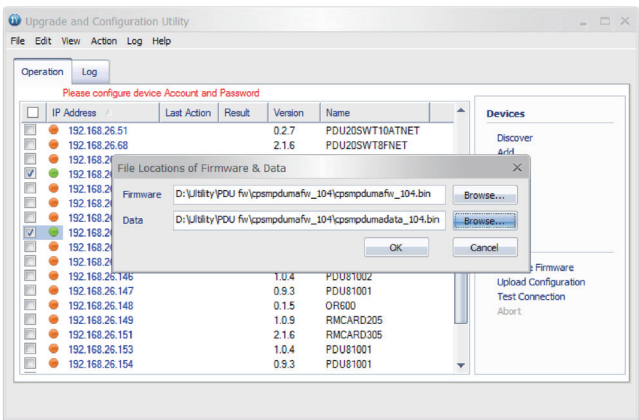

Figure 4
- 7. Click **Browse** to locate and select the firmware and data file to be updated (Shown in Figure 4).